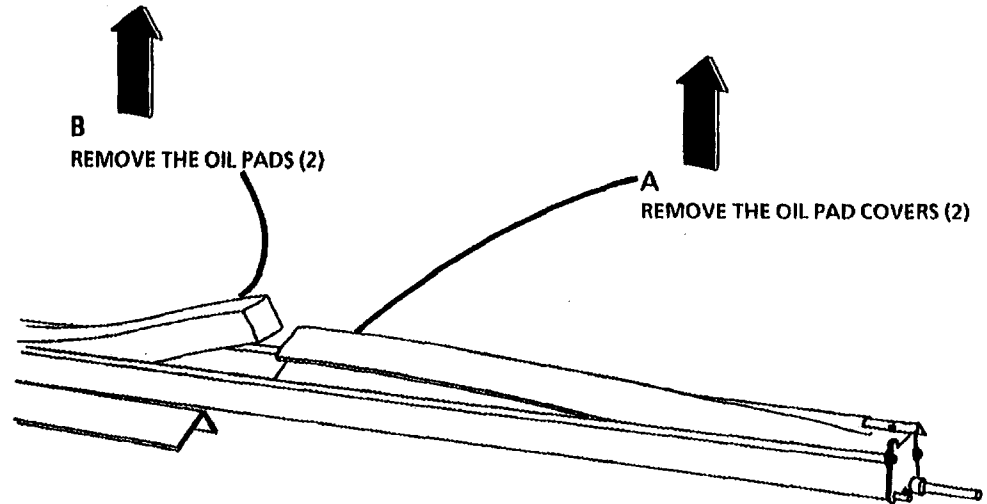

Figure 1. Removing the Oil Pads
4. (Figure 1): Remove the Oil Pads.